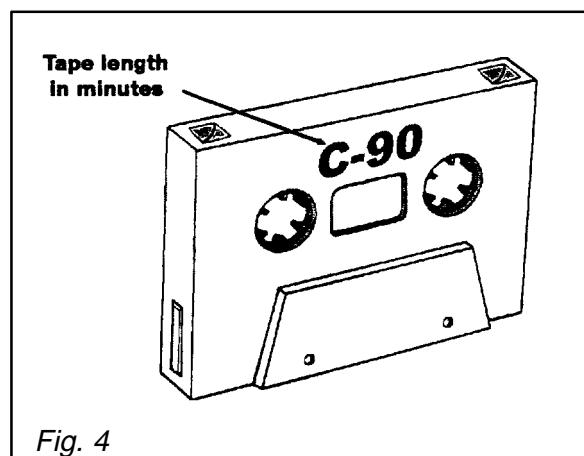

Fig. 4
4. Remove the antenna spacer grommet at the top of the antenna assembly and inspect for corrosion. Clean with 1500 grit sandpaper (Fig. 4).